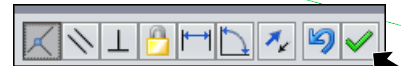

Fig. 6
Step 3. Click Add/Finish Mate  in the Mate pop-up to add **Coincident** mate, **Fig. 6**.